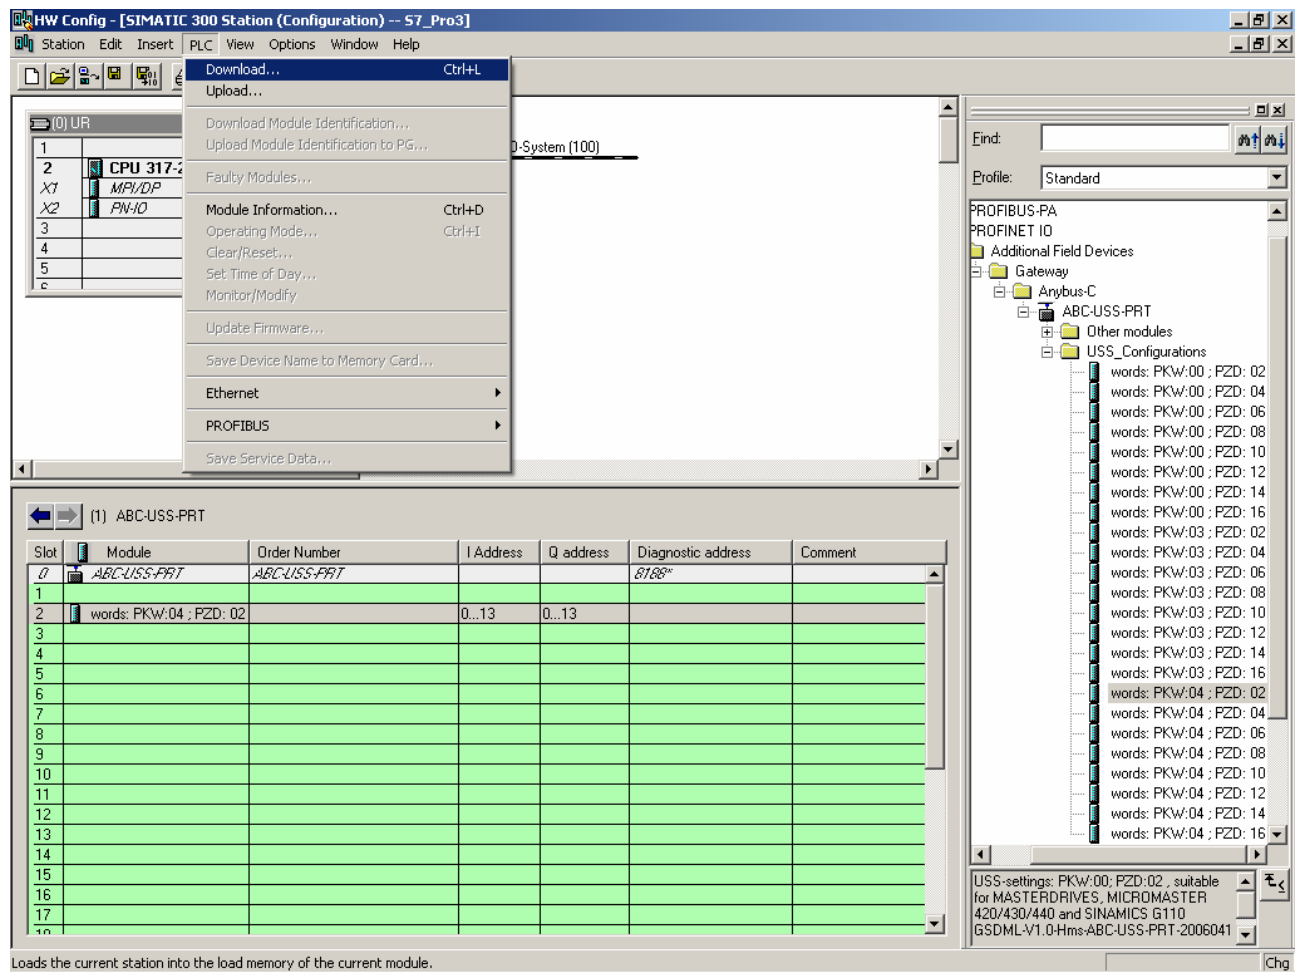

Figure 18
12. Download the configuration to the PC/PLC as shown in figure 18